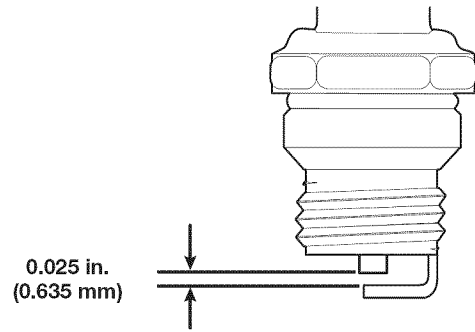

Fig. 27
4. Use a feeler gauge to set the air gap at **0.025 in. (0.635 mm)** (Fig. 27).